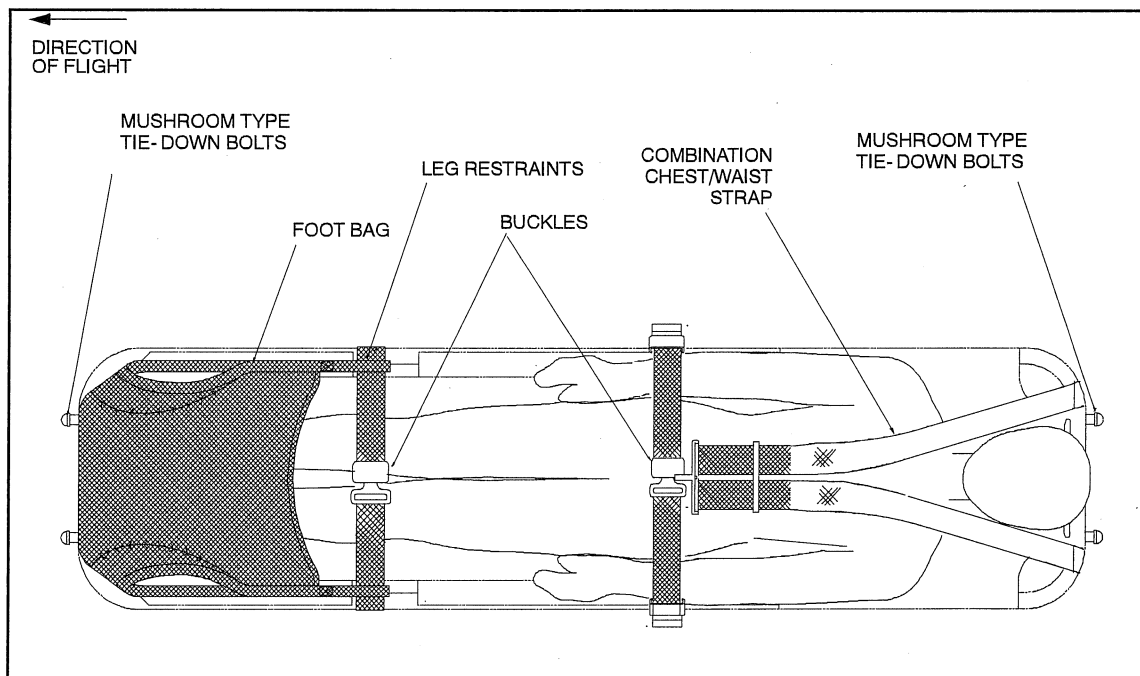

Figure 3 Top view of Left- Hand Litter Kit
- 1) Preparation of the Cabin. Refer to Figure 3.
2) Installing the Litter (refer to Figure 3)
- Load patient and litter. Insert forward litter mushroom type tie-down bolts into forward bracket assembly mounting holes. Refer to Figure 3.
- Slide aft litter mushroom type tie-down bolts into rear bracket assembly and secure using the locking bar and quick release pin. Refer to Figure 3.
3) Remove the Litter and Provisions (refer to Figure 3)